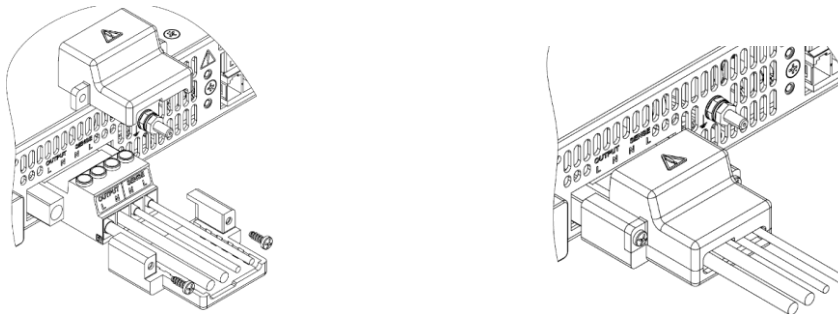

Figure 7-17: Fixing the Output Cover
7. Fix the output cover using 2 screws (WN1412(KA30X8)) provided with the power source; refer to **Figure 7-17**. Use a tightening torque of 5.2 lbf-inch (0.58Nm).
5. Fix the output cover using 2 screws (WN1412(KA30X8)) provided with the power source; refer to **Figure 7-17**. Use a tightening torque of 5.2 lbf-inch (0.58Nm).